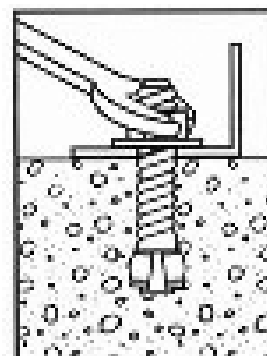

Figure 32
8. Once the machine is level, tighten the anchor bolts to 150 ft-lbs. Do not use an impact wrench on anchor bolts. (See Figure 32)